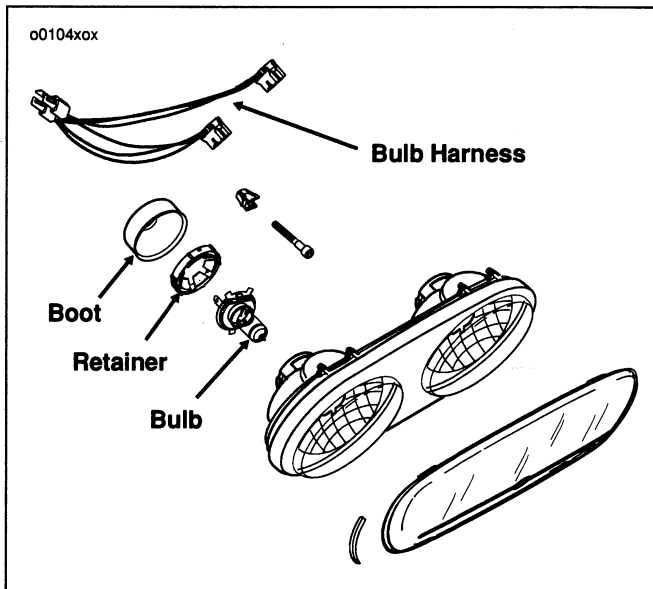

Figure 55. Headlamp
2. See Figure 55. Squeeze two external tabs to disconnect headlamp harness connector from bulb harness.
4. See Figure 55. Remove bulb harness from headlamp socket.